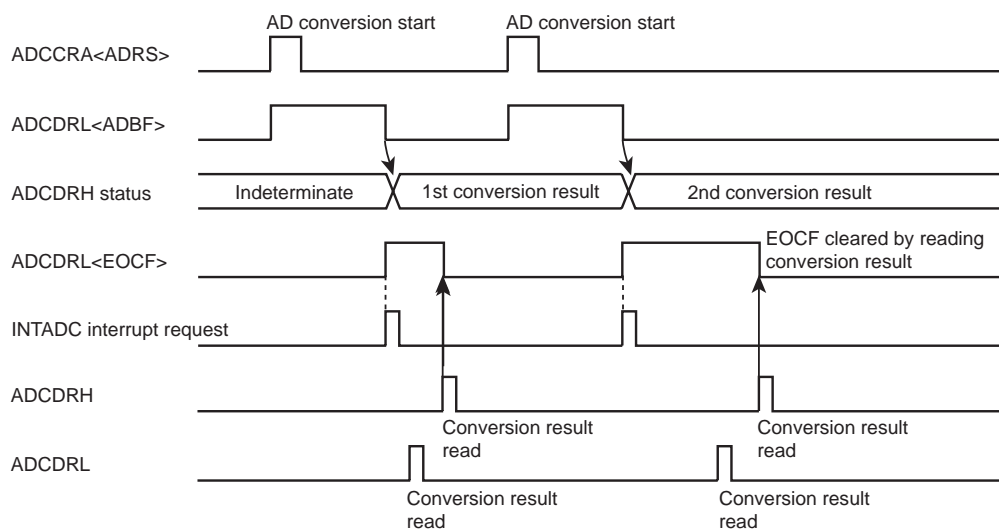

Figure 18-2 Software Start Mode
- Set the AD conversion time using AD conversion time (ACK). For details on how to set the conversion time, refer to Figure 18-1, Figure 18-2 and AD converter control register 2.
3. After setting up (1) and (2) above, set AD conversion start (ADRS) of AD converter control register 1 (ADCCRA) to "1". If software start mode has been selected, AD conversion starts immediately.